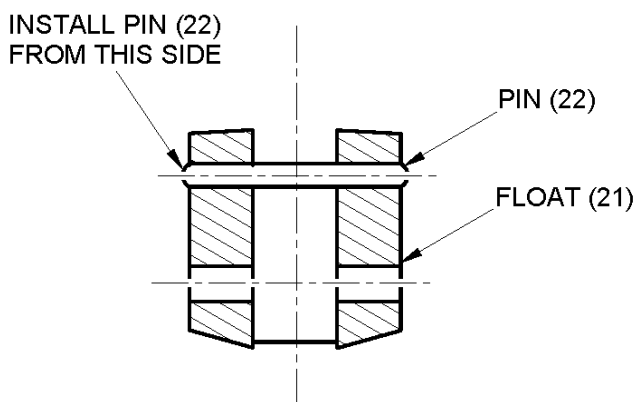

Figure 2. Pin Detail
MAKE SURE PIN (22) IS ALIGNED WITH HOLES IN LEVER OF THE FLOAT (21) AS SHOWN IN FIGURE 2.
- H. Connect the pin (22) on float (21) into the groove of the rod (14). Line up the hole of pivot (15) with the holes in the lever of float (21) and install pin (16).